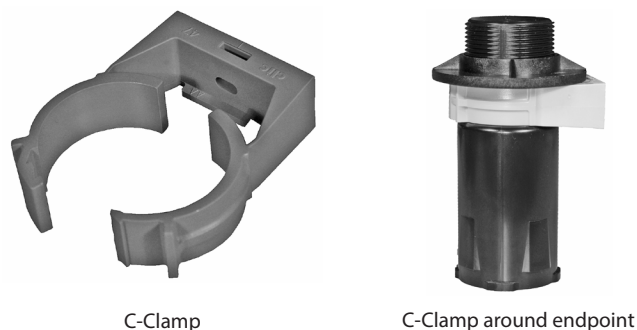

Figure 15: C-Clamp and placement
To install an ORION endpoint in a deep vault, follow these steps and see Figure 15.
3. Thread the lock nut on the endpoint until it makes contact with the neoprene spacer as shown in Figure 15.